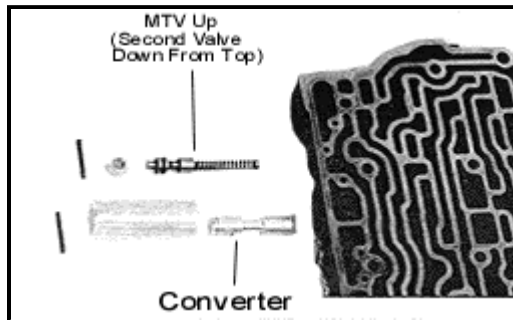

Figure 1
STEP 1 M.T.V. Up Valve: (**See Figure 1**) Remove the roll pin holding the M.T.V. Up Valve assembly. Remove aluminum plug, valve and spring. Discard spring. Reinstall the valve, aluminum plug and roll pin. The roll pin must fit flush with the casting.
STEP 2 Converter Clutch Valve: (**See Figure 1**) DIESEL APPLICATION: DO NOT MODIFY. Skip to Step 3.